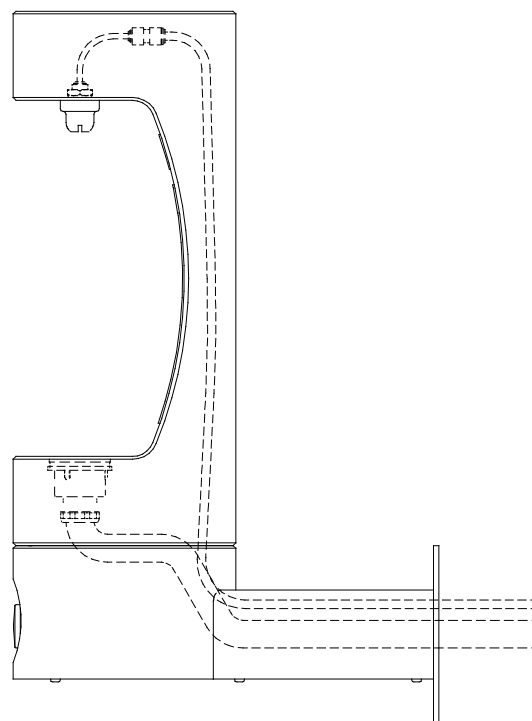
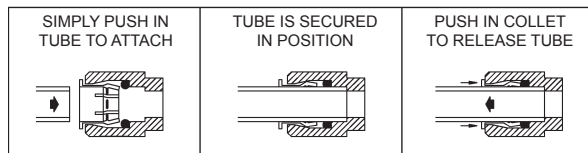

FIG. 7
FIG. 8
4. Connect water line from bottle filler nozzle into freeze resistant box. The connection to the box uses a quick connect water fitting. Position the water line, in the fountain, to drain back into interior mounted box. Any water left standing, in the exterior line, can freeze. See Fig. 7 To insert tubing, push tube straight into fitting until it reaches a positive stop. To remove tubing from the fittings, relieve water pressure, push in on dark gray collar while pulling out on the tubing. See Figure 8.